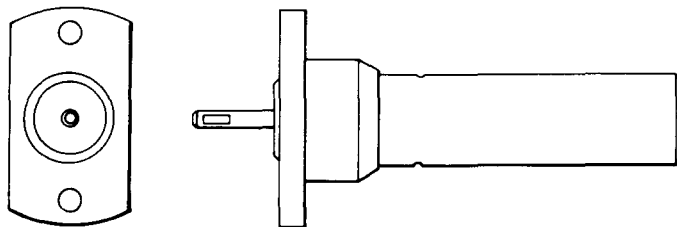

Fig. 10—510A Plug
2.09 510A: The 510A plug (Fig. 10) is a single coaxial-type plug having coaxially arranged inner and outer contacts. The 510A plug mates with the 612A and similar-type jacks at one end, and the other end is arranged for solderless wire connection. The 510A plug is not intended for termination of a coaxial cable and is used on the L5 hybrid transformers.